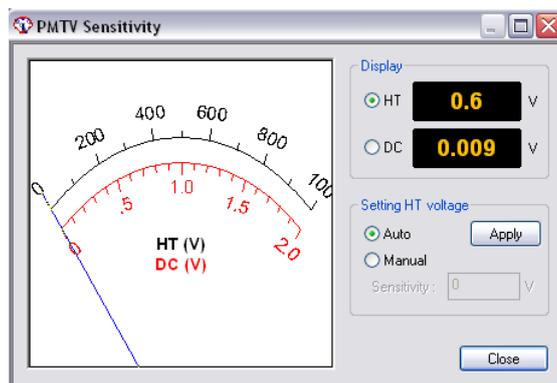

Figure 3.9 [PMTV Sensitivity] dialog box
- [Display] Changes the meter indication (displayed on the right side of Figure 3.9) at the right of [HT] or [DC] with an option button.
Note (1): Closing the shutters zeroes the HT voltage. Confirm this in the [CD Detector...] dialog box (Figure. 3.9) if necessary.